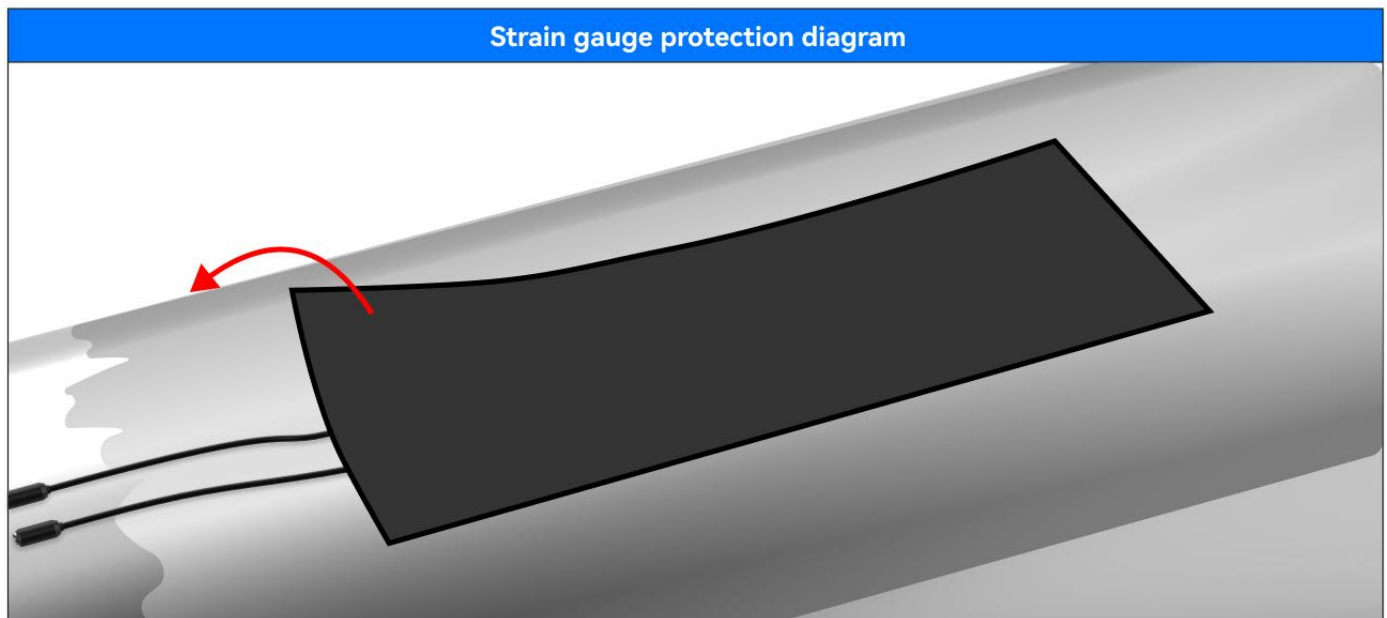

Figure 3.22
3. Cut another strip of coating large enough to cover the two strain gauges and the two tape areas, and glue the strain gauges to the clean area where the two strain gauges are connected to the shaft, as shown in Figure 3.22. Pressure is applied to the edge of the coating to provide a good seal around the measurement area.